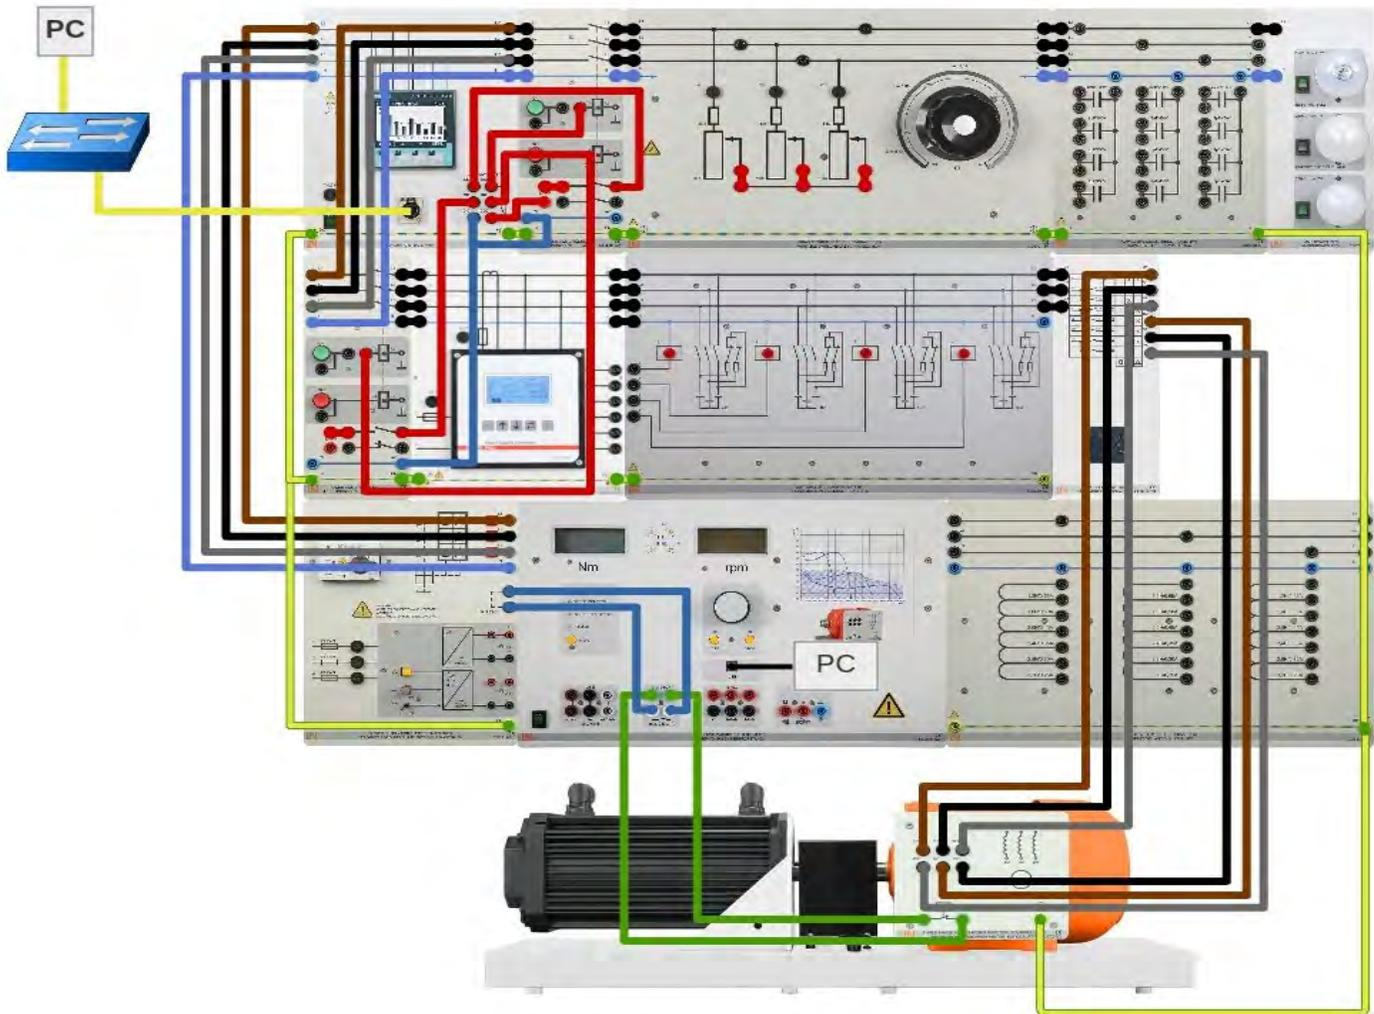

Figure 9:
1. Assemble the circuit in accordance with the layout and wiring diagram of Figure 9.